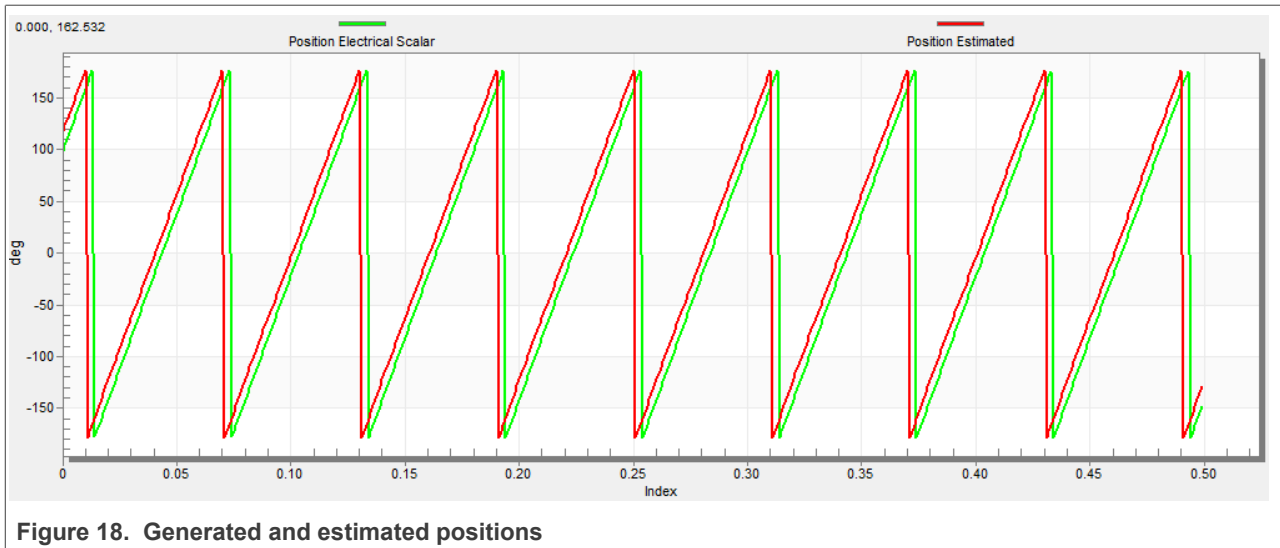

Figure 18. Generated and estimated positions
6. Select the "Position" recorder to check the observer functionality. The difference between the "Position Electrical Scalar" and the "Position Estimated" should be minimal (see Figure 18) for the Back-EMF position and speed observer to work properly. The position difference depends on the motor load. The higher the load, the bigger the difference between the positions due to the load angle.